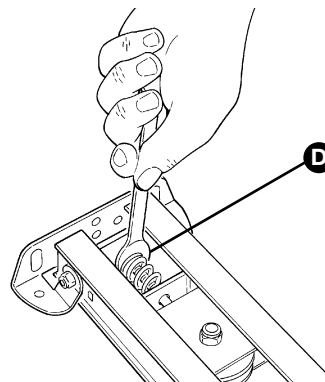

Figure 33
**7** Tension the belt by means of the M8 nut **[D]** (figure 33) until it is sufficiently taut.